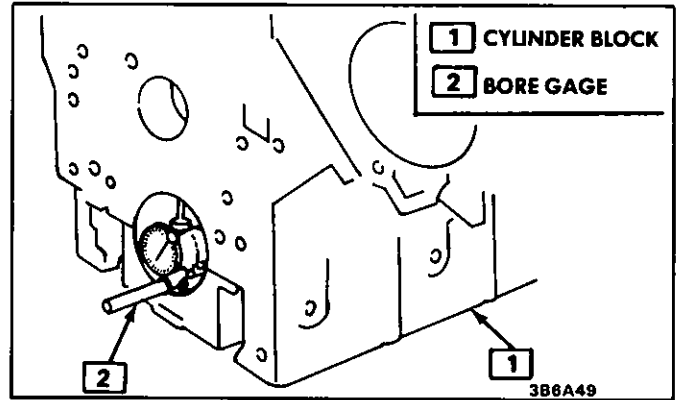

Figure 51 Measuring Bearing Bore
- Bearing bores, with a bore gage, measure concentricity and alignment (Figure 51)